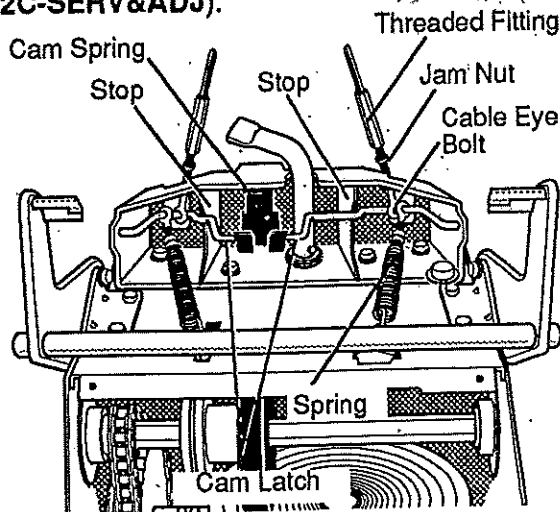

FIG. 2C-SERV&ADJ
The cam latch should contact stop (See FIG. 2C-SERV&ADJ).
If adjustment is necessary: (See FIG. 2C-SERV&ADJ)
- Loosen jam nut on cable eye bolt (See FIG. 2C-SERV&ADJ).
- Adjust threaded fitting until cam latch contacts stop (See FIG. 2C-SERV&ADJ) and retighten jam nut against threaded fitting.